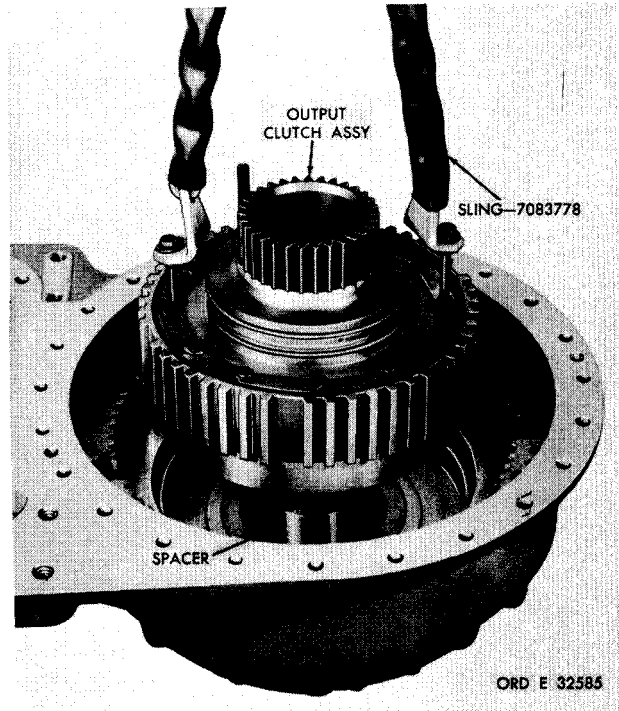
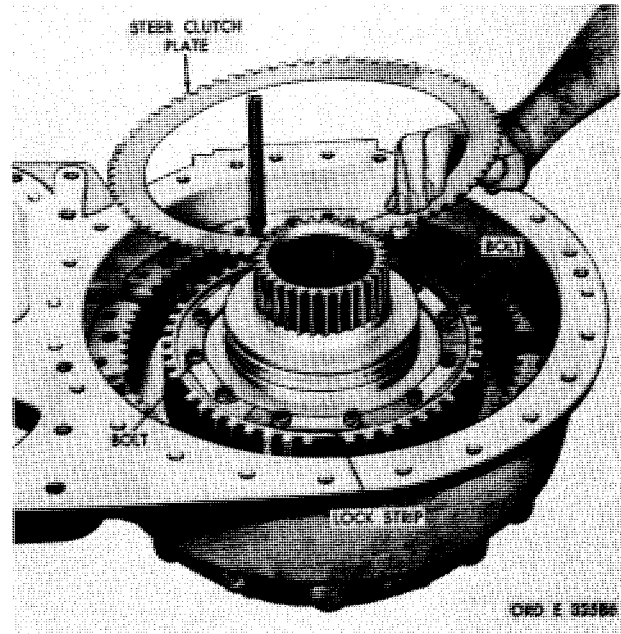

Figure 166. Installing output clutch assembly
Figure 167. Installing steer clutch plates
k. Install the spacer (fig. 166).
1. Using sling 7083778 and two 5/16-24 bolts, install the output clutch assembly (fig. 166). Remove sling and lifting bolts and install the two remaining 5/16-24 x 5/8 output clutch assembly bolts (fig. 167). Tighten the bolts to 14-18 pound-feet torque and bend corners of the lock strips against them.
m. Install six internal- and seven external splined steer clutch disks and plates, beginning with an external-splined clutch plate (fig. 167).